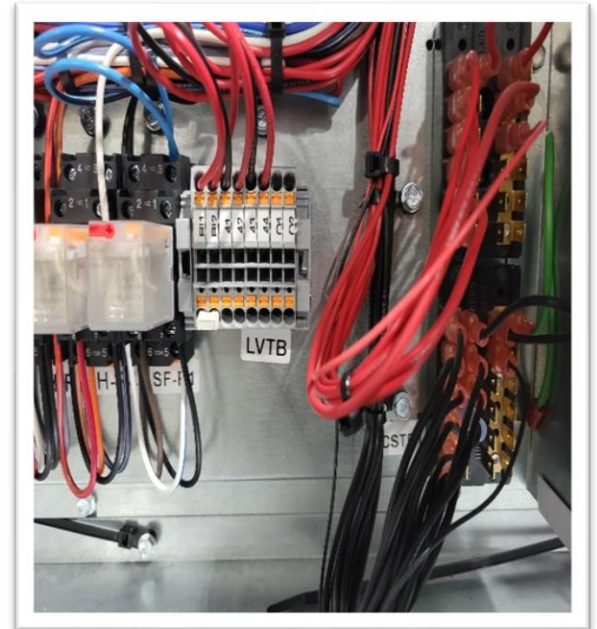

Figure 2. Transformer Block Wiring
4. Starting with the transformer terminal block at the bottom of the low voltage area (see figure 2), place a stripped end of black wire into point 41.